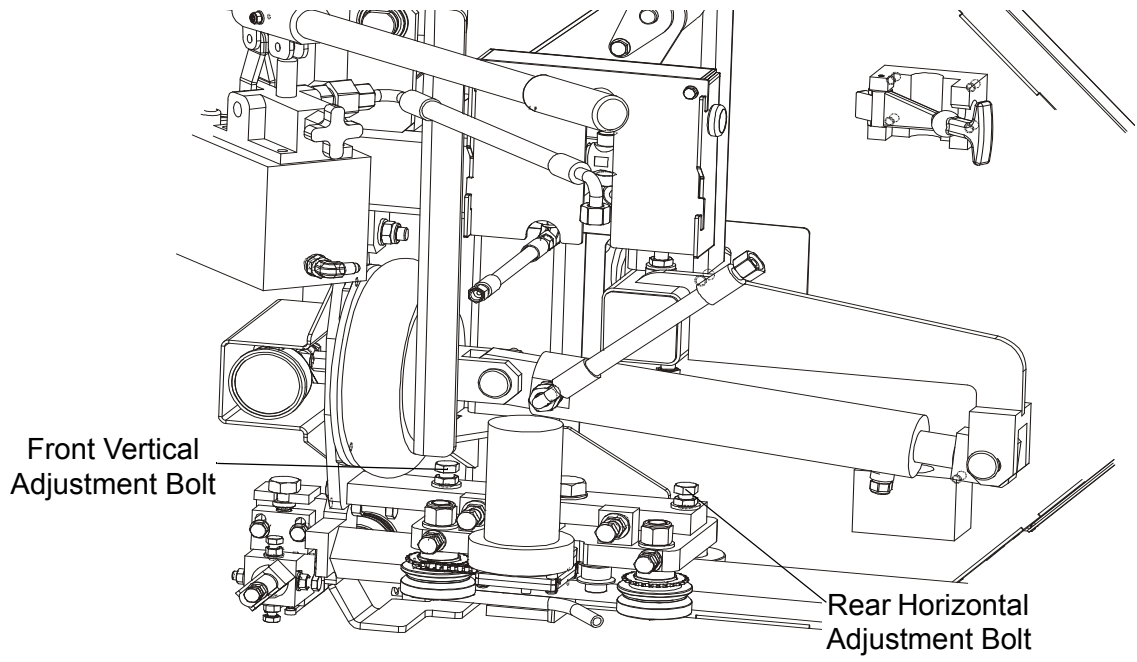

FIG. 5-31
**See Figure 5-31.** Loosen the vertical adjustment bolt jam nuts. To tilt the blade guide arm down, loosen the rear bolt and tighten the front bolt. To tilt the blade guide arm up, loosen the front bolt and tighten the